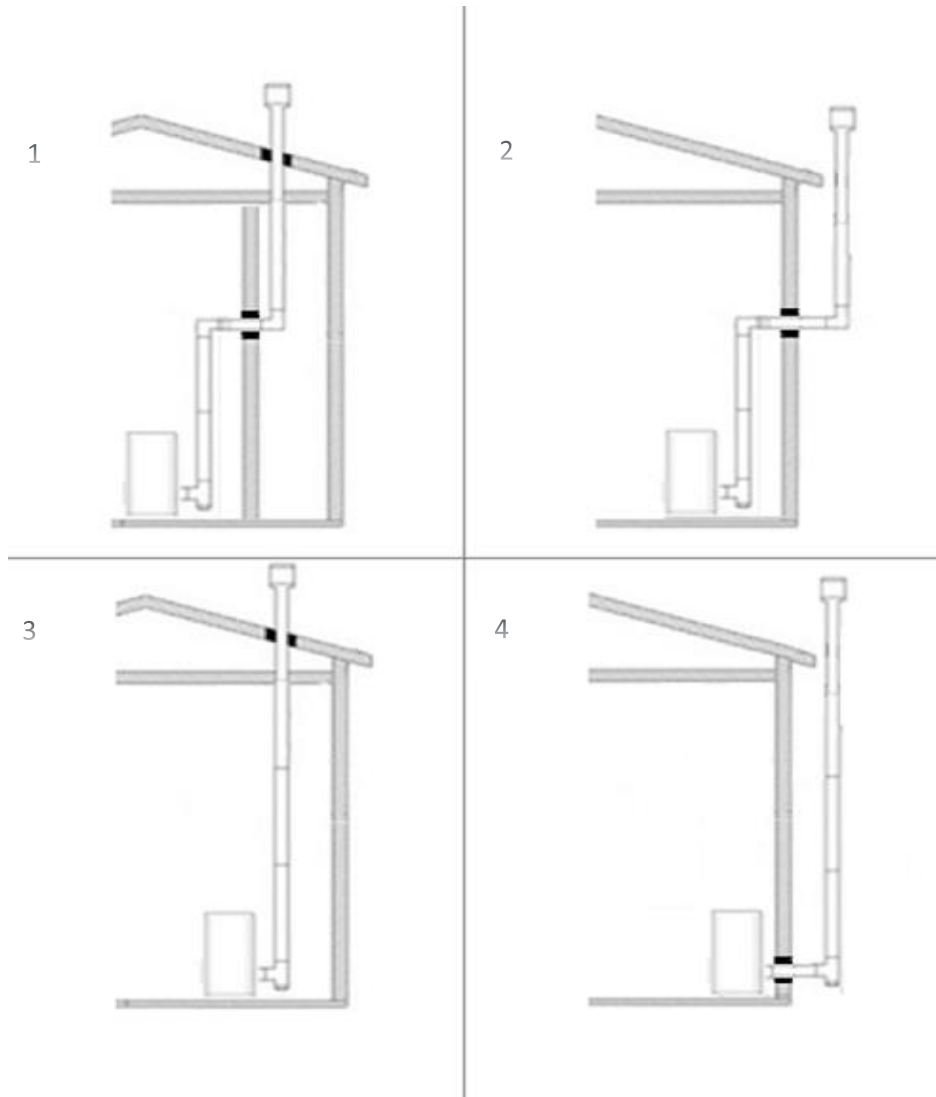

Figure 2
6. In the case of the flue opening to an existing chimney that is not perfectly perpendicular to the smoke outlet of the fireplace and for those cases in which the outlet to the outside is through the façade (see cases 1 and 2 of figure 2), it is foreseen a connection of the ducts by means of elbows. These may be up to 90° and should not suffer narrowing. In addition, the following will be addressed: